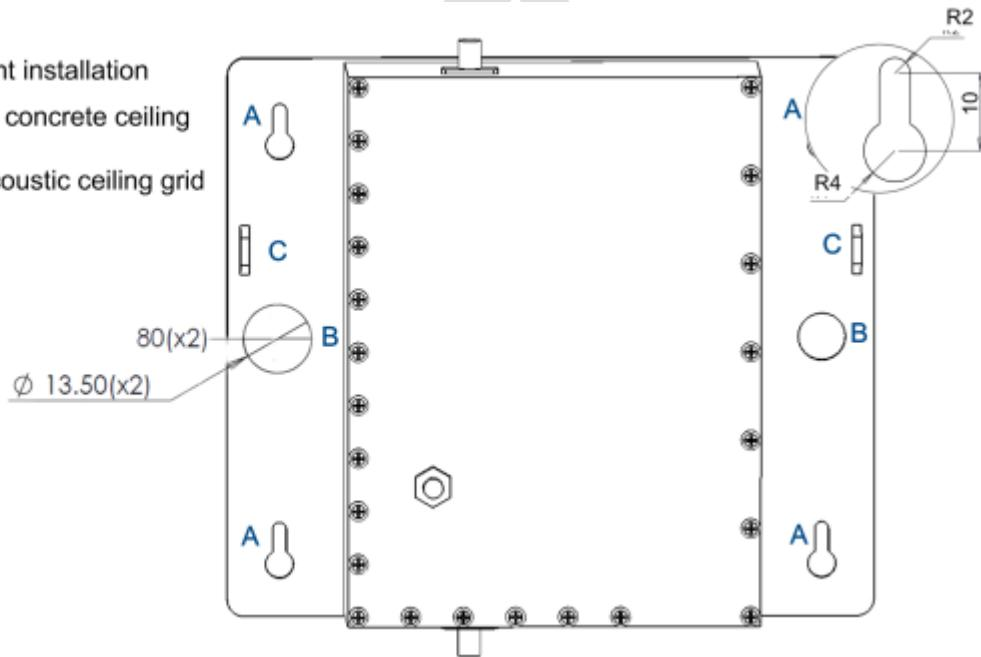
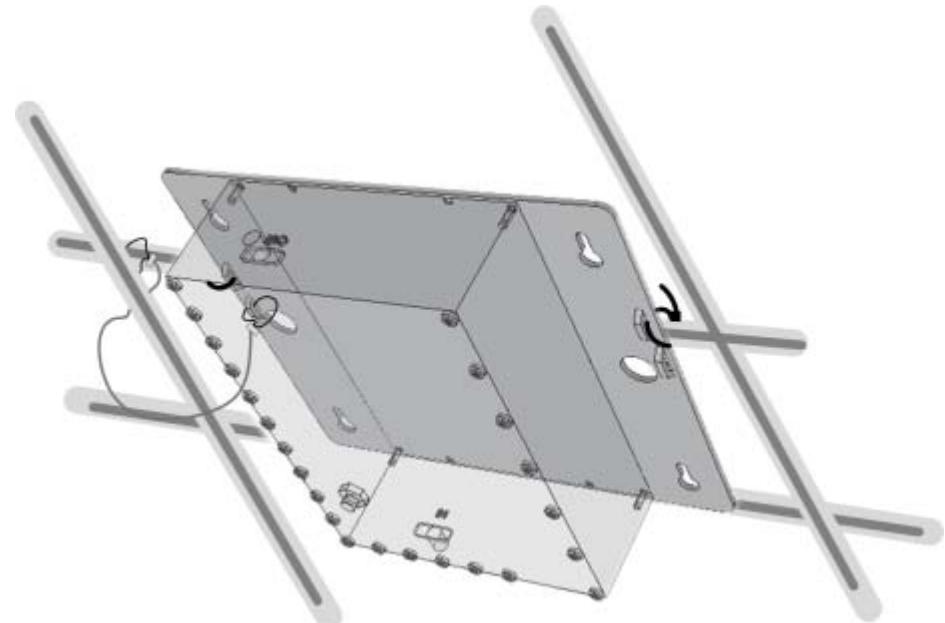

Figure 4-34.Cavity Filter Dimensions and Mounting Holes
Figure 4-36. Illustration of Cavity Filter Mounted on Acoustic Ceiling Grid
- The cavity filter mounting bracket supports wall/ceiling/acoustic ceiling installations. See Figure 4-34.
1. Using the two holes (Item B in Figure 4-34) as a guide, mark the location of the holes to be drilled in the ceiling.
In acoustic ceiling mount installations, the Cavity Filter can be fastened to the grid by slipping tie wraps through slits on the bracket (Item C in Figure 4-34) and securing the assembly to the grid with the provided safety cable. Refer to Figure 4-36.
1. Using the four key holes (Item A in Figure 4-34) as a guide, mark the location of the holes to be drilled in the wall.